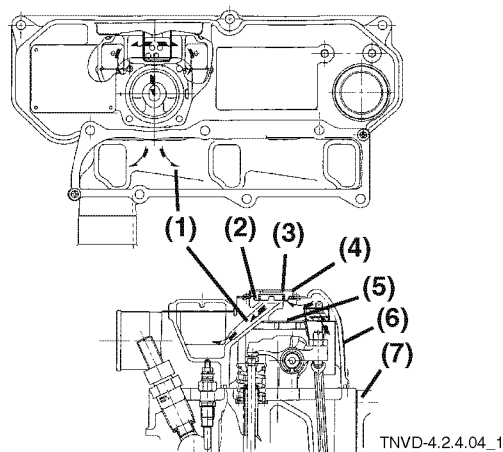

Figure 5-126
Some combustion gases pass through the clearances between the cylinder walls and piston rings and flow into the crankcase. This is called “blow-by gas” (Figure 5-126, (1)). Emitting blow-by gas is harmful to the natural environment. Therefore, a blow-by gas reducer is incorporated in the breather system.
When blow-by gas arrives in the cylinder head (Figure 5-126, (7)) and rocker arm cover (Figure 5-126, (6)) it mixes with splash oil and becomes an oil-mist. It then moves through the baffle plate (Figure 5-126, (5)) inside the rocker arm cover and passes through a diaphragm assembly (Figure 5-126, (2)) to the air intake filter. The blow-by gas is then consumed in the combustion chamber.
A damaged diaphragm causes blow-by to be exhausted through a breather hole on the side of the diaphragm cover (Figure 5-126, (4)), and not into the intake manifold.